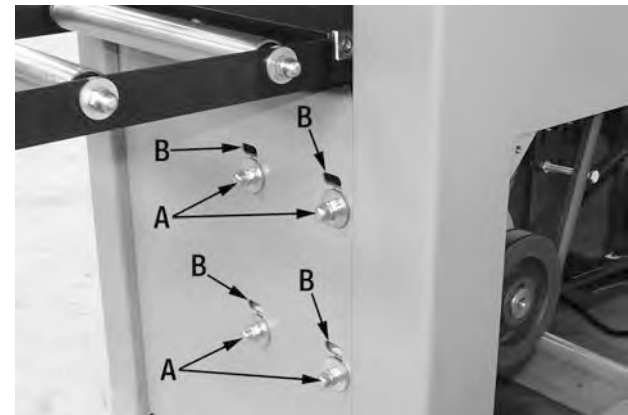

FIGURE 25
4. Loosen the four motor mount bolts (A) Fig.25. Raise the motor so the motor mount bolts (A) rest in the horizontal slots (B), releasing tension on the belt.